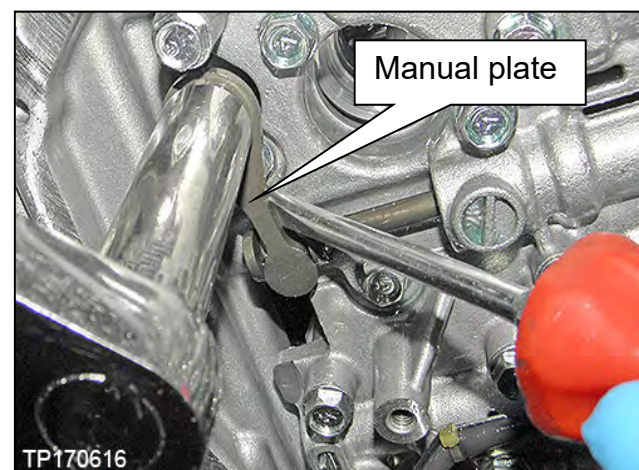

Figure 5
- Use a screwdriver to hold the manual plate (Figure 5). This will prevent the shaft from rotating while removing the nut.